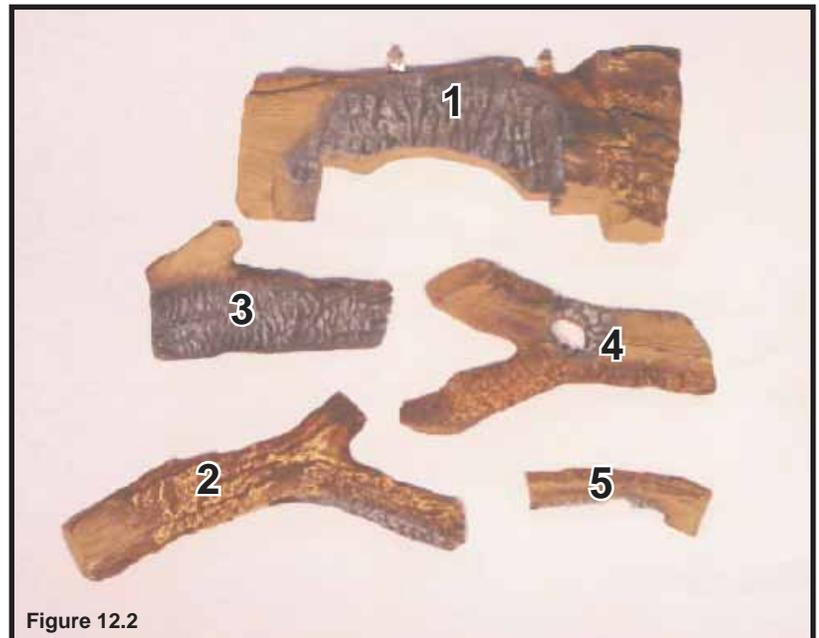

Figure 12.2
**CAUTION:** Logs are fragile! Carefully remove the logs, grate and supporting cardboard from the inside of the fireplace See Figure 12.2.